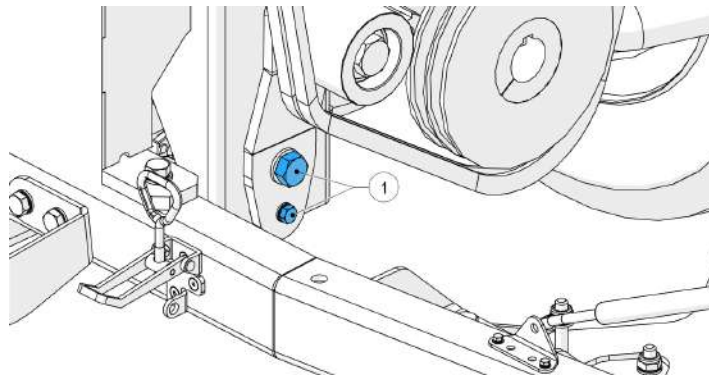

Figure 67 - Main belt tensioner
4. Locate the main belt tensioner (1, Figure 67).